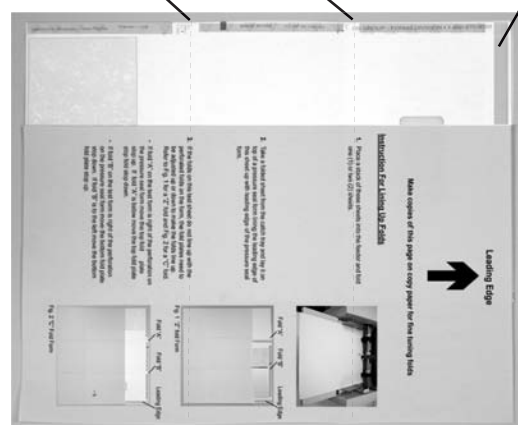

Fig. 2 "C" Fold Form
3. If the folds on this test sheet do not line up with the perforated folds on the form, the fold plates need to be adjusted up or down to make the folds line up. Refer to Fig. 1 for a "Z" fold and Fig. 2 for a "C" fold.